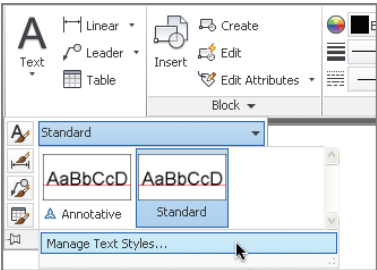

FIGURE 10.1 Managing text styles
2. On the ribbon's Home tab, expand the Annotation panel and open the first drop-down menu (for text styles). Every drawing has both an Annotative and Standard style by default. Select Manage Text Styles at the bottom of the panel (see Figure 10.1).